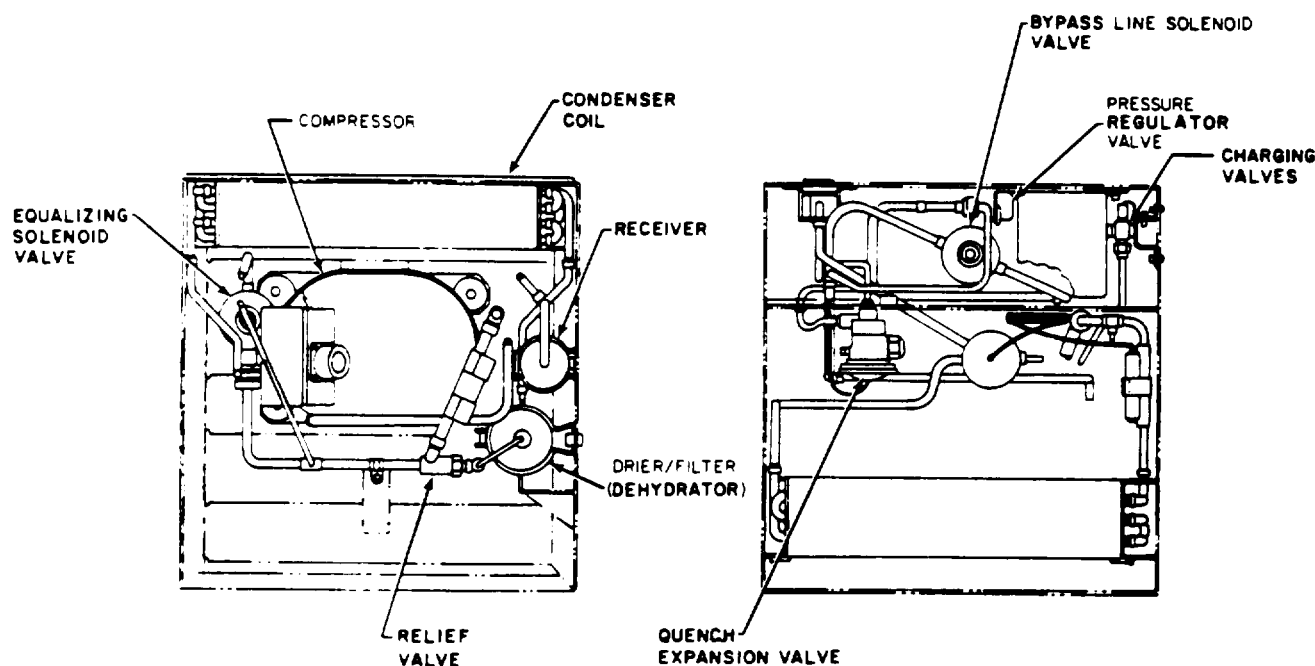

Figure 1-1. Air Conditioner, Condenser Section.
a. CONDENSER AREA. See Figures 1-1 and 1-2.